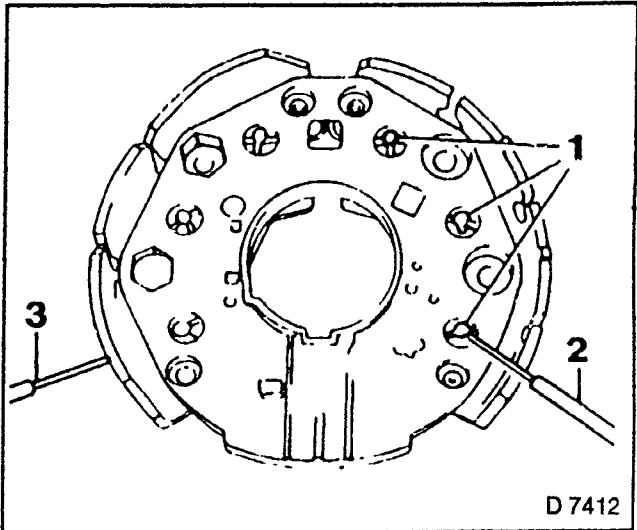

Fig. 350
- 1. Negative diodes (1).
- 2. Positive probe (2) to diode housing.
- 3. Negative probe (3) to diode connection.
- 5. Exchange probes — see Fig. 350.